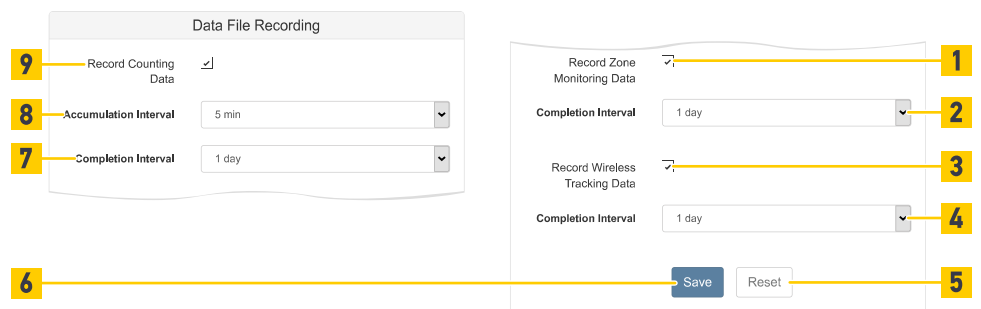

Fig. 119: Data File Recording
- To activate the recording of counting data tick the Record Counting Data checkbox (Fig. 119 /9).
- To define the period within which counts are accumulated and new data lines are attached to the current data file set a Accumulation Interval (Fig. 119 /8).
- To define the period for a data file set a Completion Interval (Fig. 119 /7). After this period each data file is completed. New data is recorded in a subsequent file.
- To activate the recording of zone monitoring data tick the Record Zone Monitoring Data checkbox (Fig. 119 /1).
- To define the period for a data file set a Completion Interval (Fig. 119 /2). After this period each data file is completed. New data is recorded in a subsequent file.
- To active the recording of wireless tracking data tick the Record Wireless Tracking Data checkbox (Fig. 119 /3).
- To define the period for a data file set a Completion Interval (Fig. 119 /4). After this period each data file is completed. New data is recorded in a subsequent file.
- To go back to the last saved settings click the Reset button (Fig. 119 /5).
- To save all the settings in the device click the Save button (Fig. 119 /6).